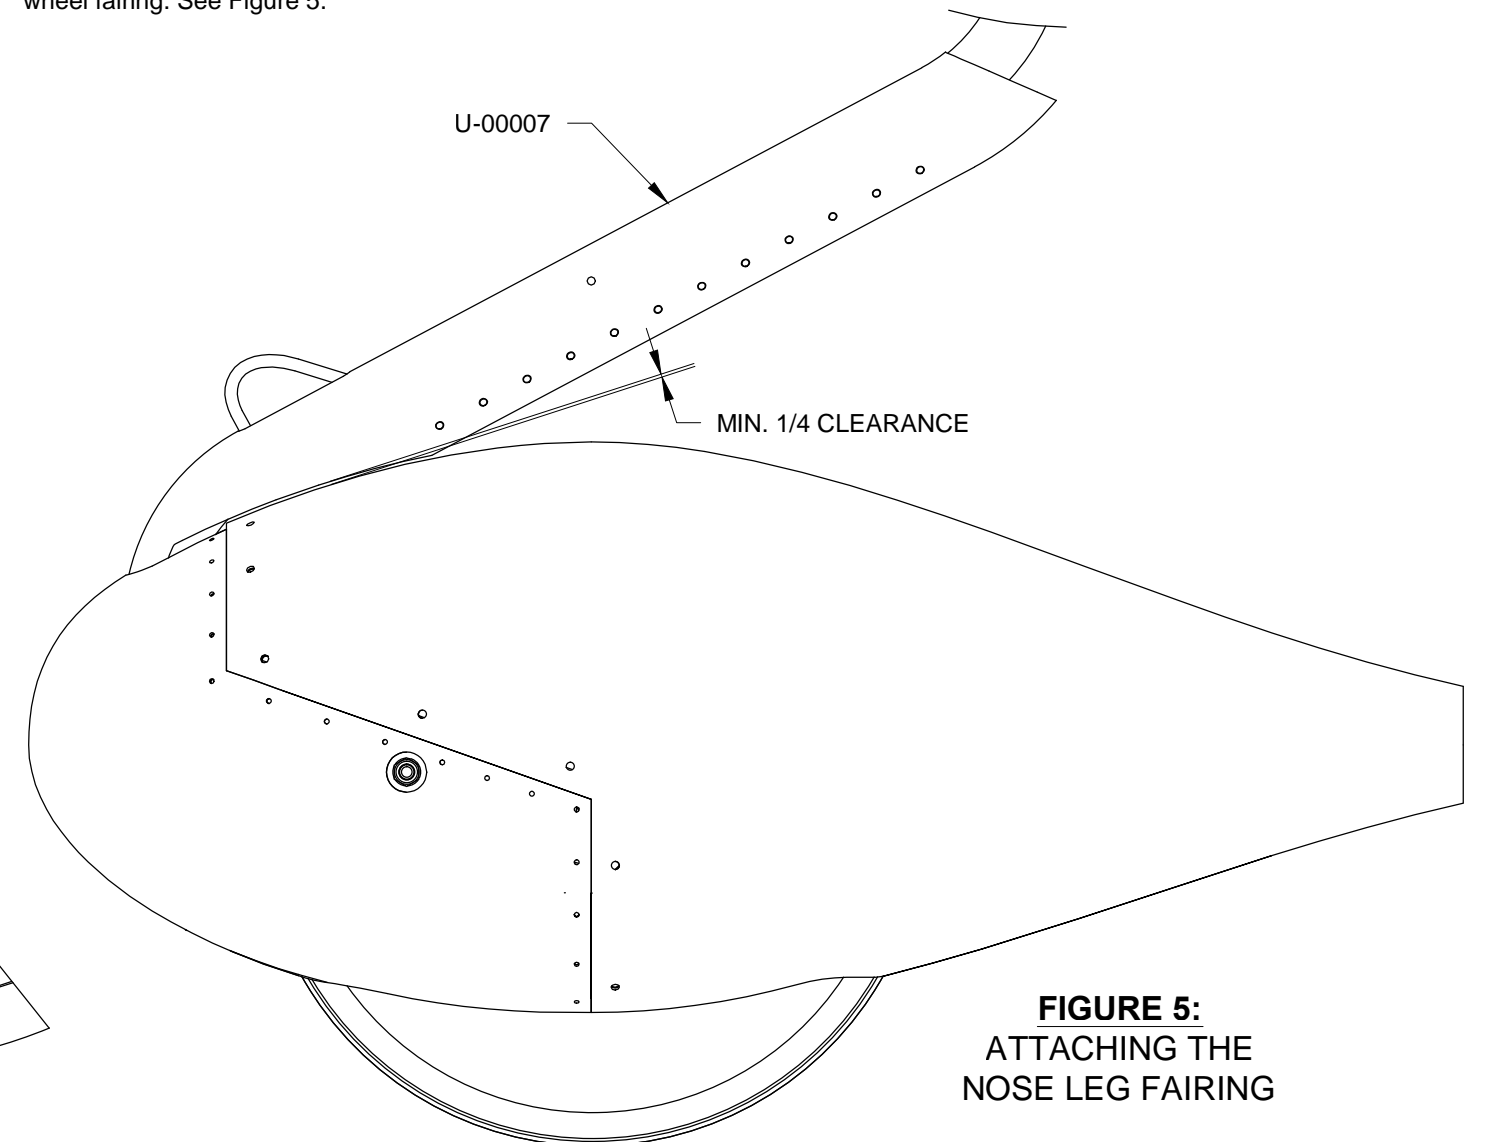

FIGURE 5: ATTACHING THE NOSE LEG FAIRING
Step 5: Fit the U-00007 Nose Leg Fairing to the WD-1201 Nose Gear Assembly as shown in Figure 5. Align the gear leg fairing by inserting the screws called out in 36-12 Figure 2. Install the U-00005A Nose Wheel Fairing Front and U-00005B Nose Wheel Fairing Aft. Rotate the nose wheel from side to side to check for clearance. Trim the nose leg fairing if it interferes with the nose wheel fairing. See Figure 5.